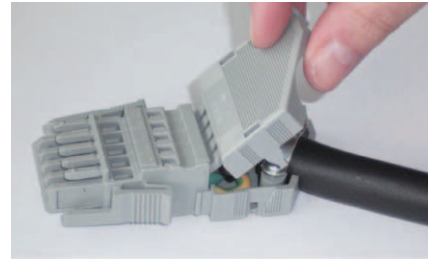

Fig. 82: Closing the strain relief housing
- Close the strain relief housing by pressing the top piece of the housing onto the bottom piece from above (fig. 82).